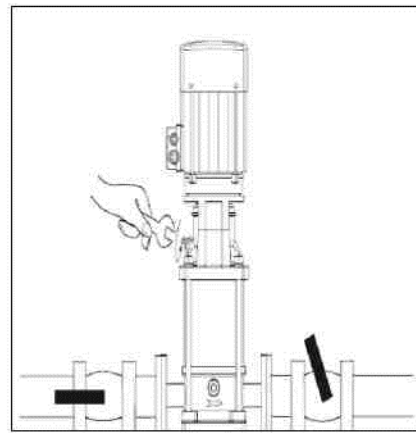

Figure 5
- 9- Bleed the pump using the relief valve located at the pump head. At the same time, open the discharge valve slightly (See Figure 5).